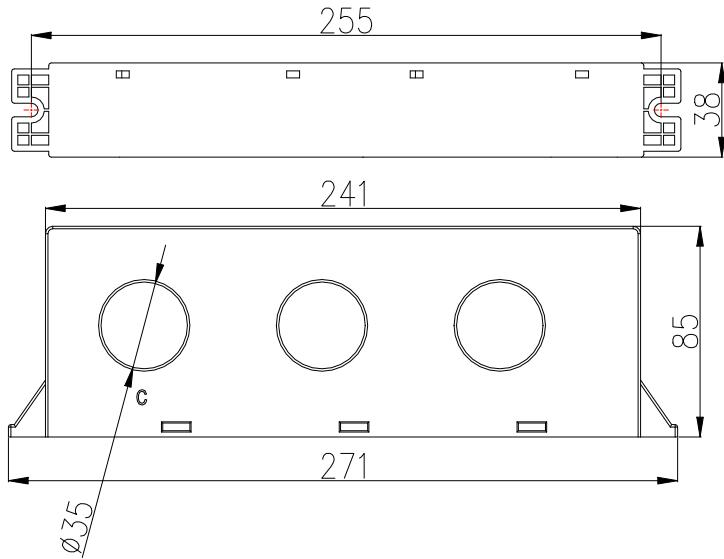

Figure 6 The external dimensions of split current transformer(250A and 800A current specification)
5.3.2 The external dimensions of split current transformer (250A and 800Acurrent specification)are shown in figure 6(Unit: mm):